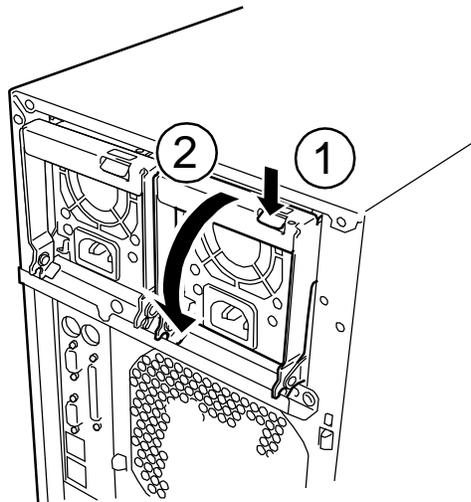

Figure 4-32. Removing a Power Supply
4. While pressing down on the locking tab, grasp the handle and carefully pull the power supply out of the power supply bay. See Figure 4-32.